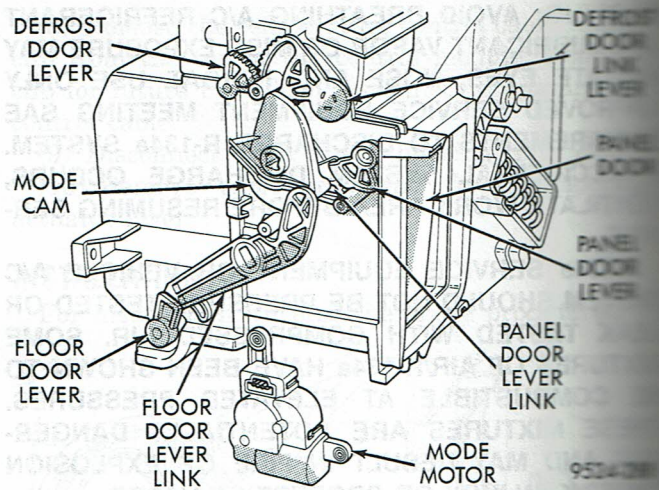

Fig. 76 Mode Motor
- (2) Remove A/C mode motor (Fig. 76).